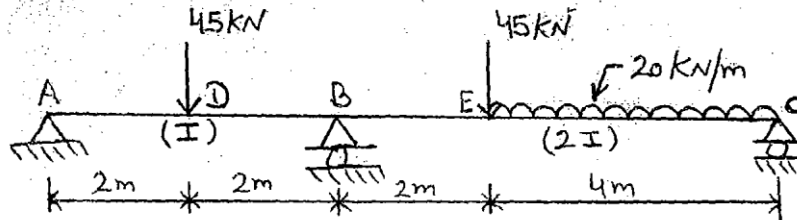

Fig.1
2. Find the reaction in the beam (shown in fig 1) using consistent deformation method.